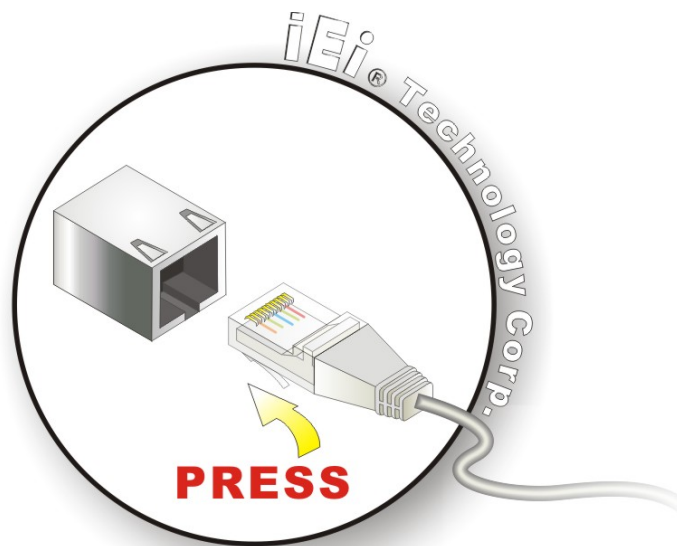

Figure 4-16: LAN Connection
Step 5: Align the connectors. Align the RJ-45 connector on the LAN cable with one of the RJ-45 connectors on the IMB-G41A. See **Figure 4-16**.